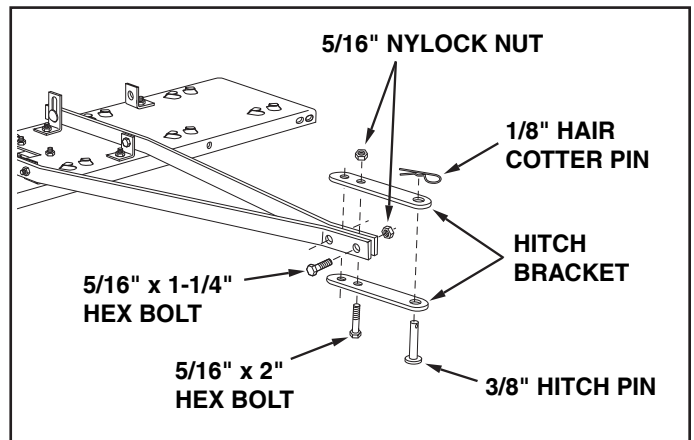

FIGURE 4
7. Assemble the front ends of the hitch mount arms together using two 5/16" x 1-1/4" hex bolts and 5/16" nylock nuts. **Do not tighten yet.** See figure 4.
8. Assemble the hitch brackets to the top and bottom of the hitch mount arms using two 5/16" x 2" hex bolts and 5/16" nylock nuts. **Do not tighten yet.** See figure 4.
9. Assemble the 3/8" hitch pin through the hitch brackets and secure it with a 1/8" hair cotter pin. See figure 4.